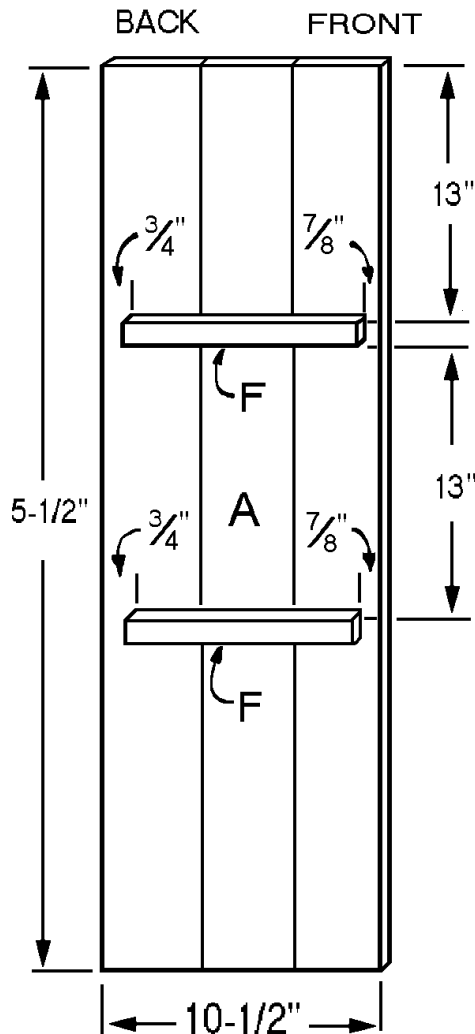

Figure 1
3. The two shelves (E) are supported by shelf supports (F) that are screwed to the inside of the cabinet sides. The actual placement of the shelves inside the cabinet is optional. I placed my first one 13 inches from the top, and the second shelf 13 inches below that. *Figure 1* shows the placement of the shelf supports.
4. Cut four shelf supports (F) from 1 x 2 pine, each measuring 8-7/8 inches long.
5. According to the spacing that your desire, mark the placement of the shelf supports (F) on the inside face of each of the sides (A). Referring to *Figure 1*, note that the shelf supports (F) are installed 3/4 inch from the rear edge of the sides (A) in order to accommodate the back (B). There is a 7/8" space at the front ends of the shelf supports (F) to allow for the door.
6. Glue and screw the two shelf supports (F) to inside face of each side (A) using two 1-1/4-inch-long screws on each shelf support (F). The two sides with the shelf supports attached should be mirror images of each other